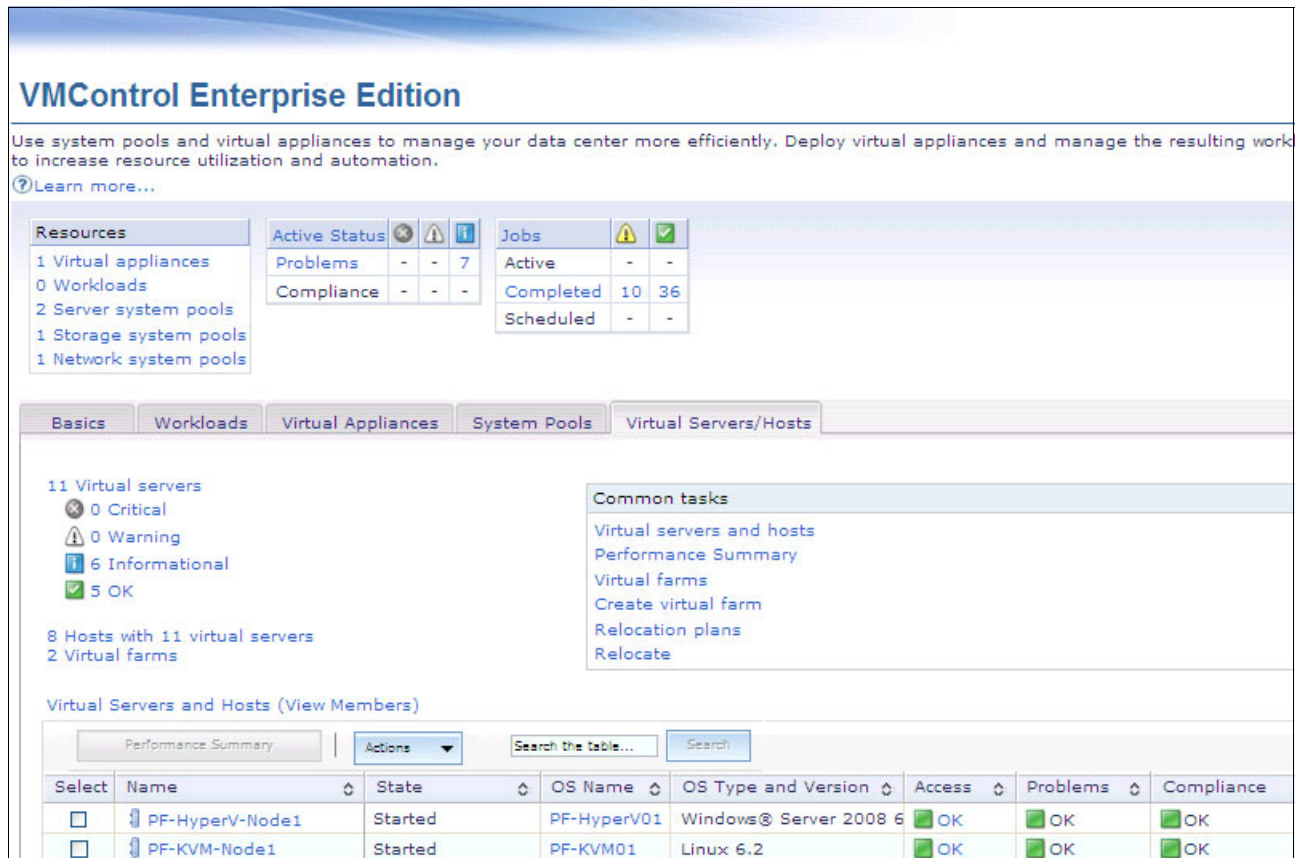

Figure 12-15 VMControl Enterprise Edition
1. Go to VMControl and click the **Virtual Servers/Hosts** tab as shown in Figure 12-15.